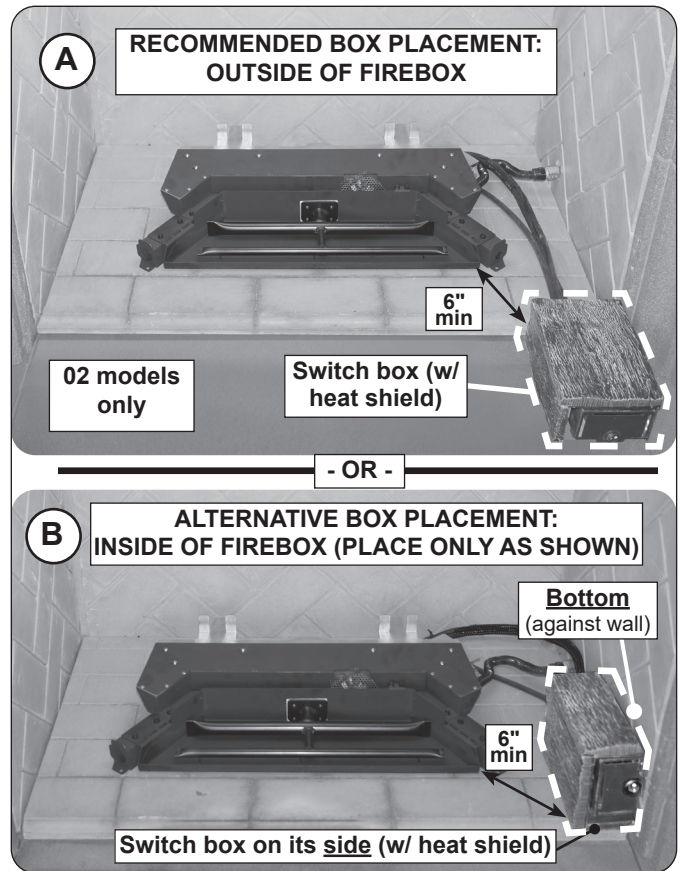

Fig. 16-1 Position switch box (02 models only)
1. It is recommended the switch box be placed outside of the firebox and a minimum of 6" from the burner/flame. See Fig. 16-1, A.
Alternatively, the box can be placed inside of the firebox, but must be oriented as shown in Fig. 16-1, B. Set the box on its side and place the bottom of the box toward the right firebox wall (box must be a minimum of 6" from the burner/flame). DO NOT place at the rear of the firebox.
2. Place the large decorative heat shield over the switch box (see Fig. 16-1, A or B).